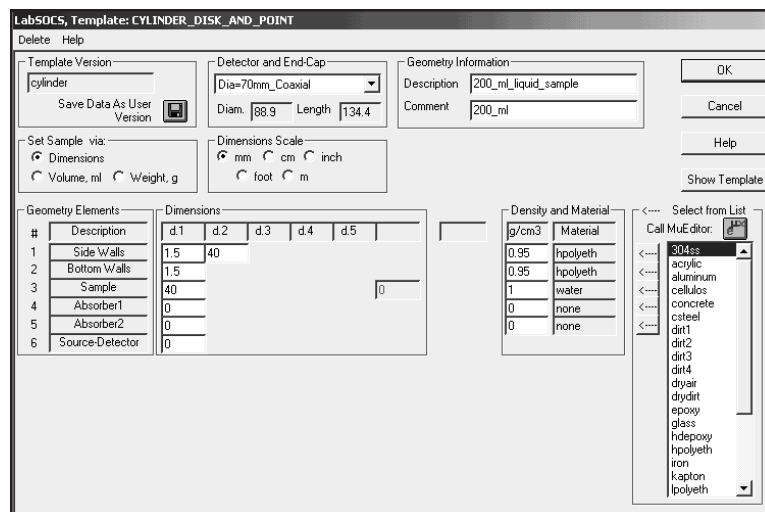
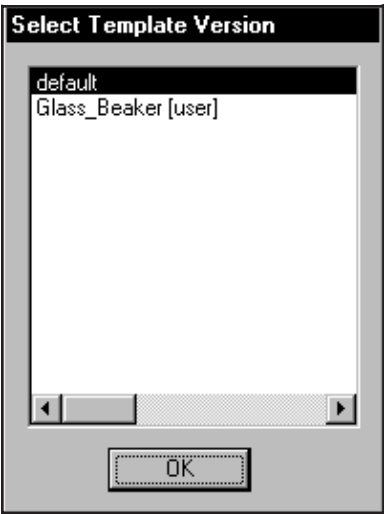

Figure 166 Editing the Sample and Detector Dimensions
Figure 171 Selecting a User-defined Template.
You can either use the default template (Figure 166) or an existing partially defined template based on the Simplified Marinelli Beaker template (Figure 171 on page 214). In
Figure 171, select one of the already defined templates to use for the new definition, then click on **OK** to go on to Figure 166. For the following example, the default template has been selected.
3. This will display the dialog shown in Figure 171, where you can select the custom definition you just saved as your base template, then continue as described in “Detector and End Cap” on page 208.